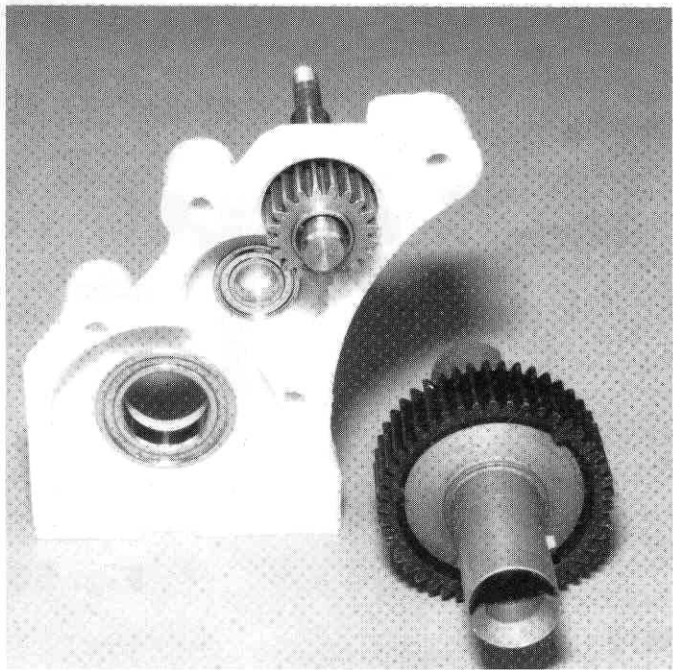

Fig. 52
□ **Figs. 52 & 53** Now take the diff assembly and slip it into the lower big bushing into the right hand case. Insert the right hand hub, which is the one that has the bolt HEAD in it.